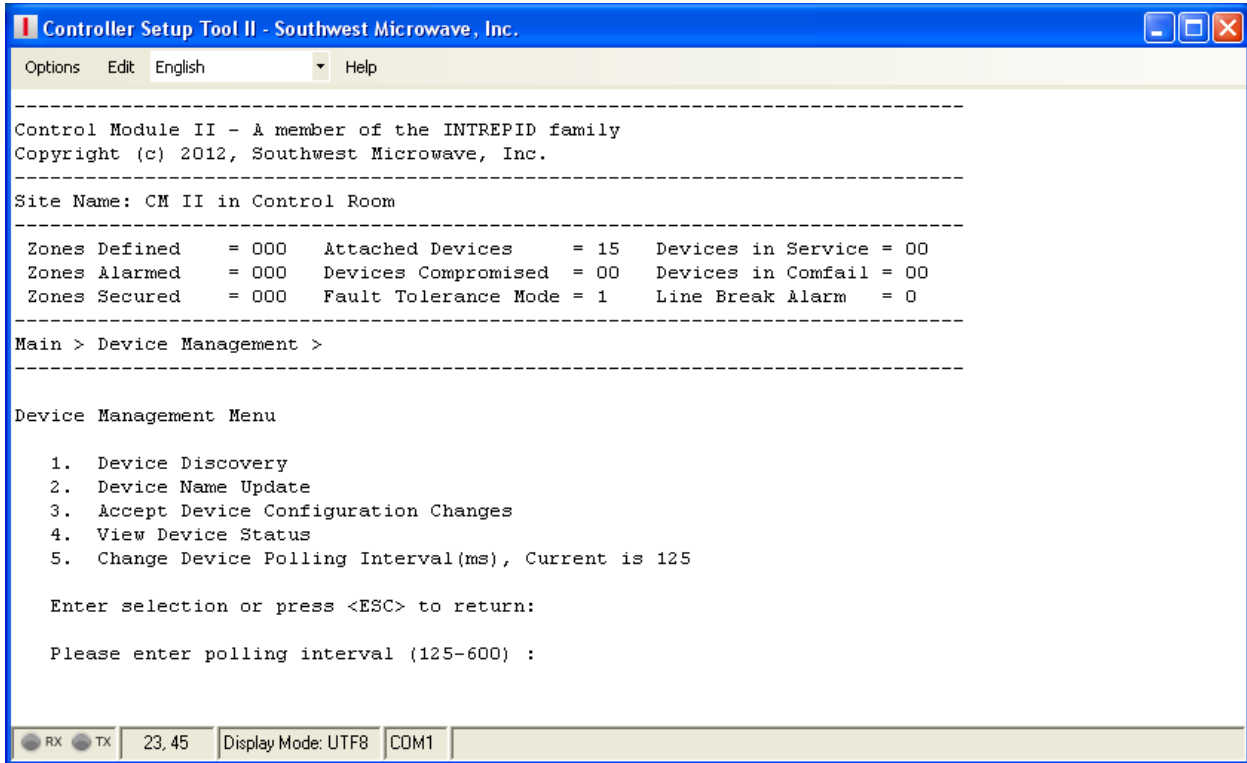
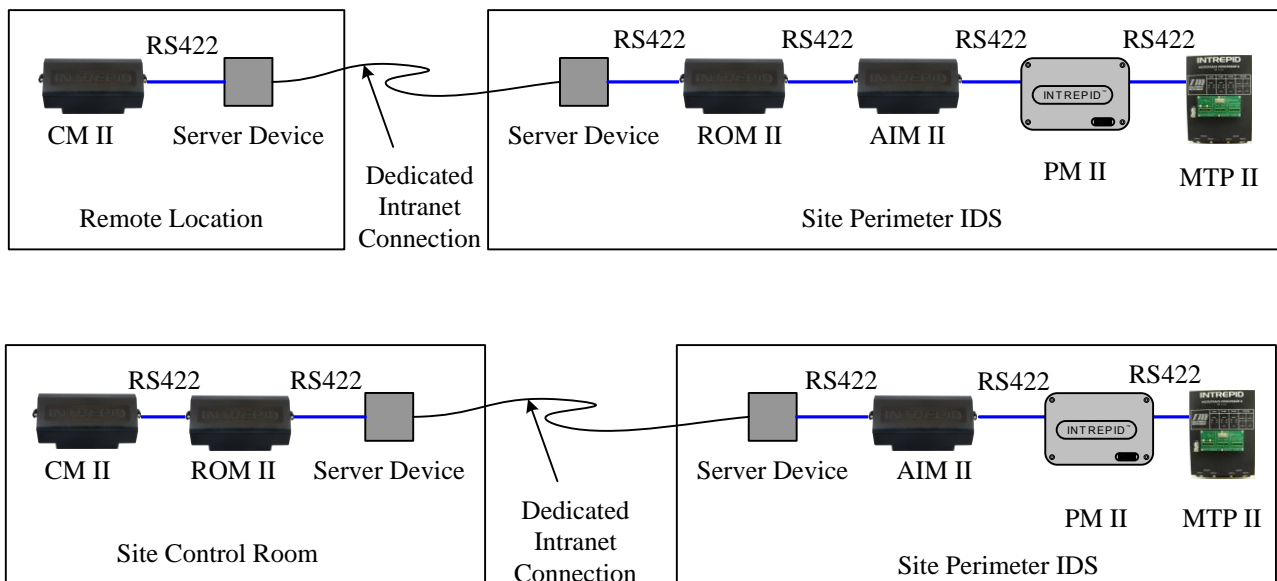

Figure 30 – Change Device Polling Interval Screen
Figure 31 – Intranet Connection
Selecting command 5 will open the “Change Device Polling Interval” screen as shown in Figure 30. This screen will allow for changing the polling time from the CM II to the devices in milliseconds (ms) when using the CM II over a dedicated Intranet connection as shown in Figure 31.
There are two (2) intranet options supported as shown in Figure 31. One is using the CM II at a remote location to poll the sensors and devices over the dedicated intranet connection while the other option is using the CM II and ROM II (s) in a control room with the network connection to the perimeter.